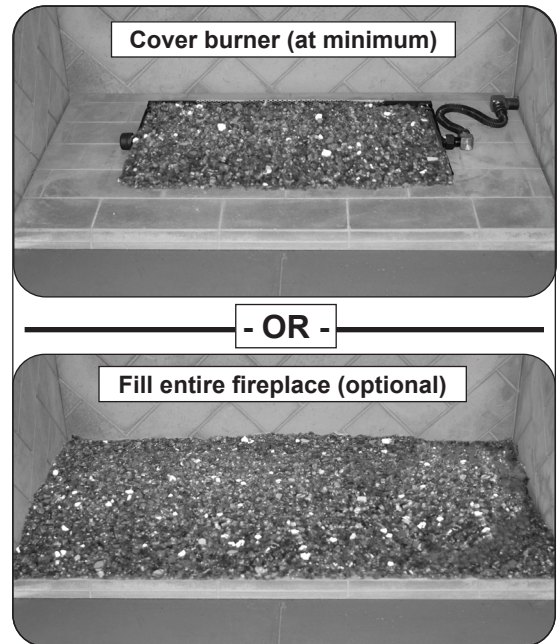

Fig. 13-1 Glass media placement
1. After the required sand/vermiculite and screen have been placed, pour the glass media (glass, gems) so that the burner pan is covered completely and evenly (see Fig. 13-1).
2. Complete placement by pouring the remaining glass media on the floor of the fireplace, around the front, rear, and sides of the burner system (see Fig. 13-1).